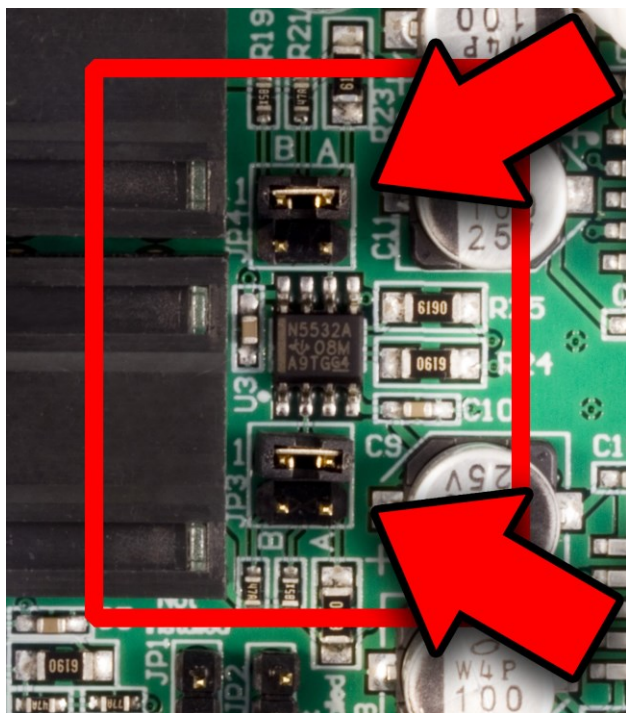

Figure 5 - 20 dB Headphone Attenuation
- **20 dB** attenuation - see **Figure 5**